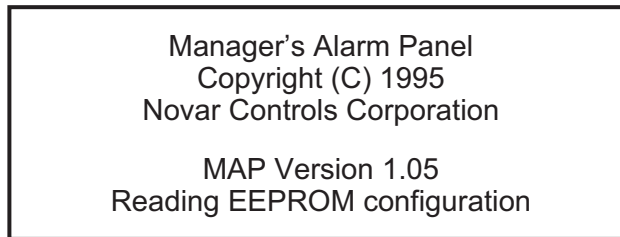

Figure 3. MAP power-up display
- Check the first screen that appears on the display. If the MAP is properly wired, the screen shown in Figure 3 should appear for a few seconds and then be replaced by the Main Alarm Log screen.